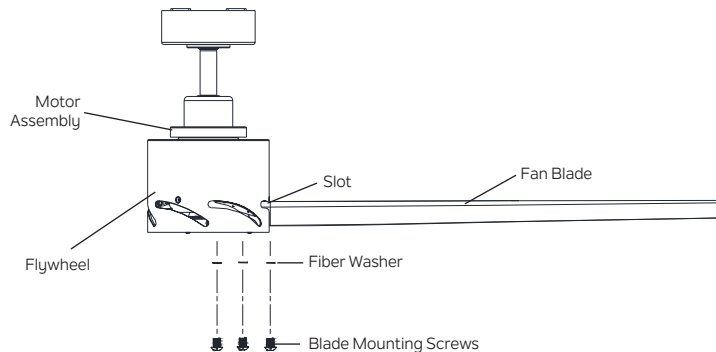

Fig. 15
Step 1. Insert fan blade through a slot in the flywheel. (Fig. 15)
Repeat for the remaining fan blades. (Fig. 15)